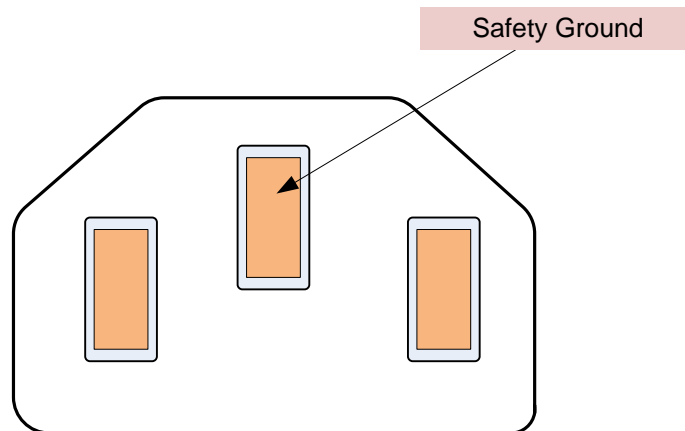

Figure 5. Power Cord End View Showing the Location of the Safety Ground.
1. Obtain the AC line cord from the recommend dc power supply for the program. Another source for this cord is any desk-top computer or screen. Figure 5 shows the end of the cord that connects to the powered equipment. Connect the plug end of the cord into a wall outlet. Review the video provided in the course materials before proceeding with this activity. Contact the course instructor if you have any questions or concerns before proceeding to the next steps.